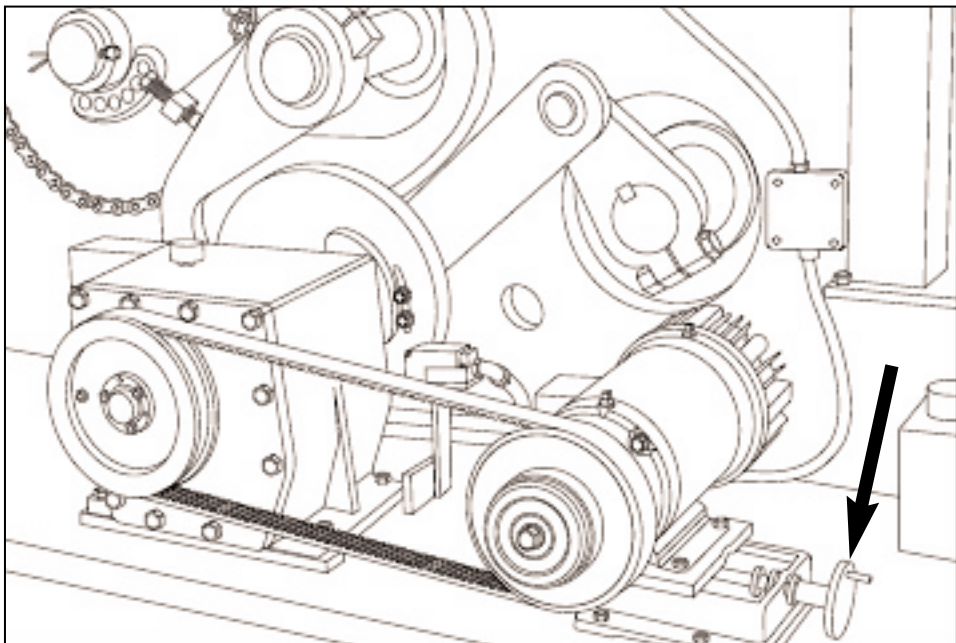

Figure 6.23 USING CRANK TO ADJUST BLOCK MOVING ARM SPEED.
6.2.16 Adjust speed of block delivery by moving motor towards gear reducer to increase speed or away to decrease speed (see figure 6.23). The actuators for limit switches 6 and 7 may have to be adjusted.